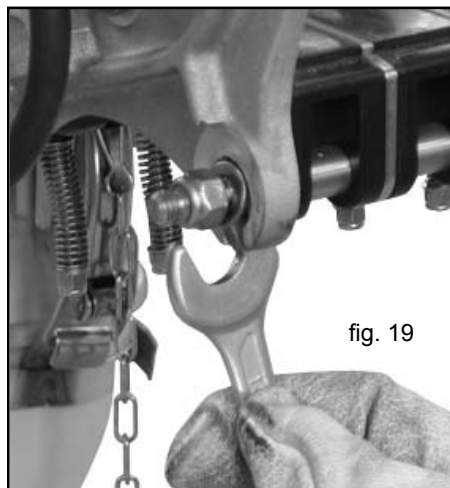

fig. 19
- 2) Until it becomes possible to push out the discs fitted inside, remove them from their seats (Fig. 19) and move the axles.